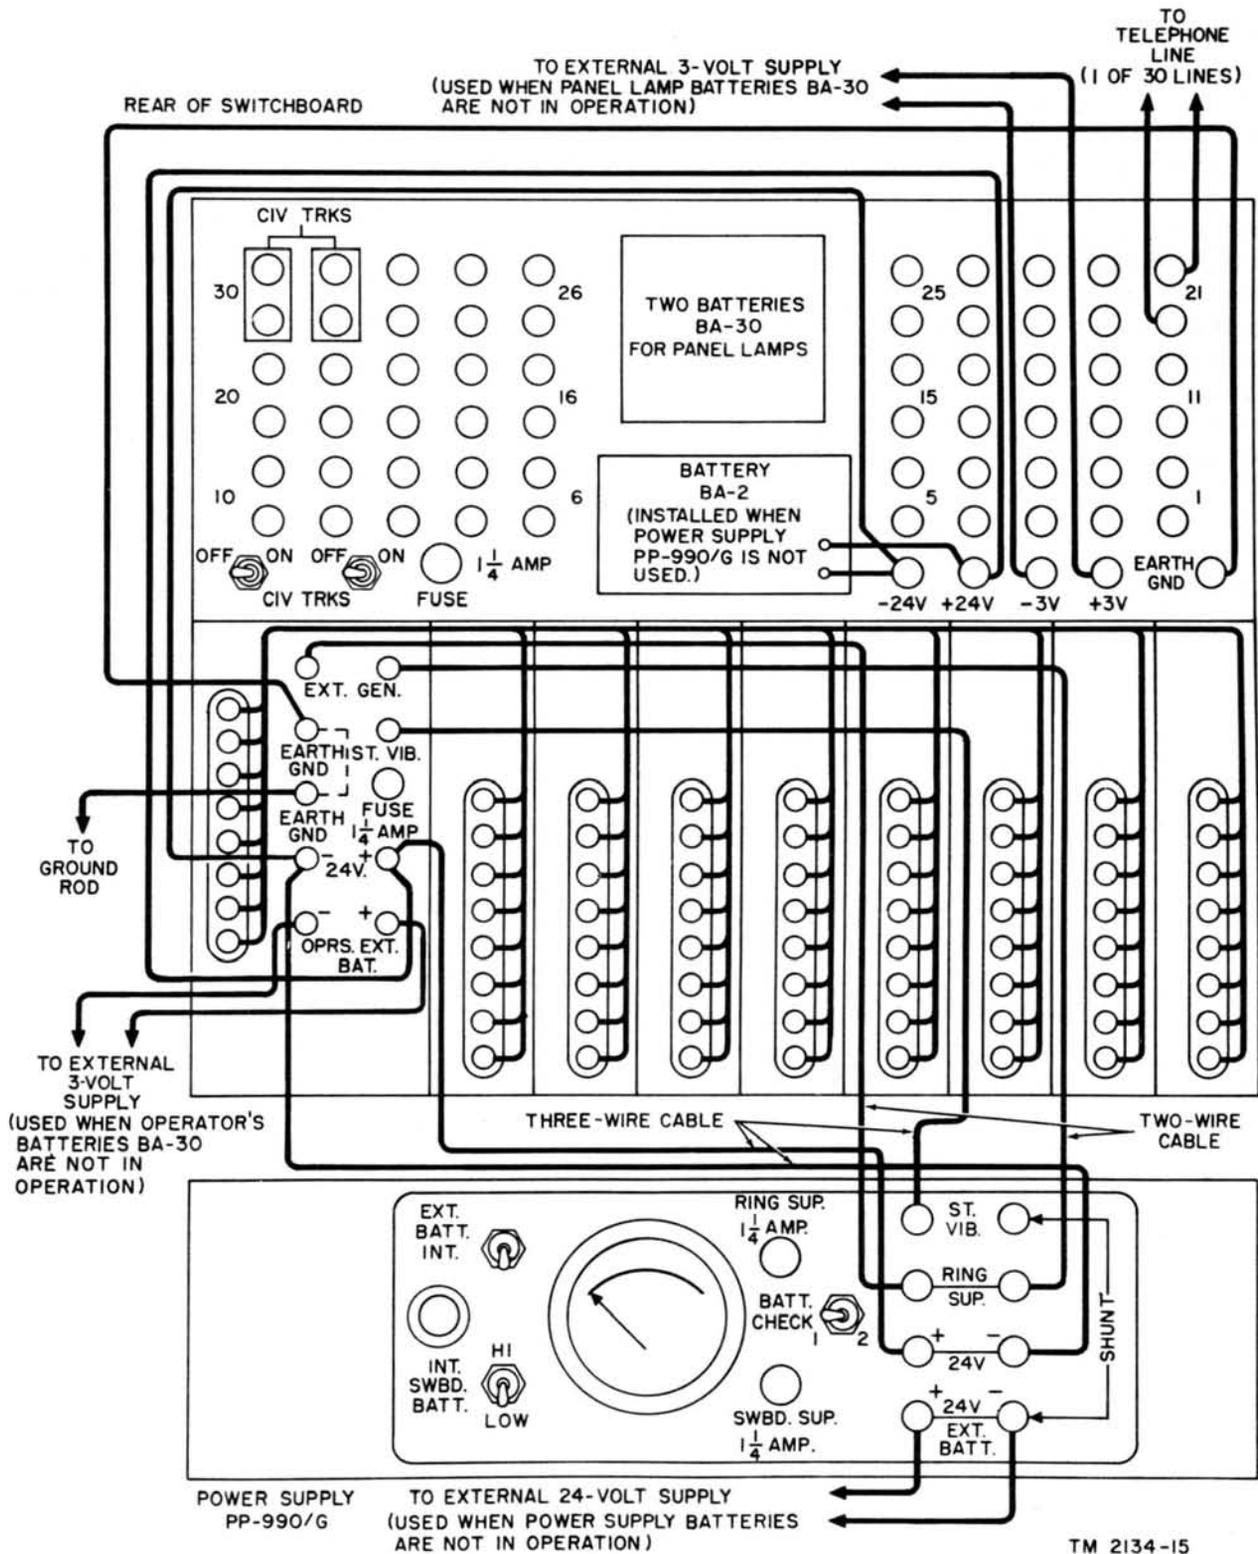

Figure 18. Manual Telephone Switchboard SB-86/P, cording diagram.
(fig. 18)
#### 29. Power Supply PP-990/G (fig. 18)
- (3) The line selector switch is operated to the T position when the line circuit is to be used for a common battery signaling trunk. When the line selector switch is in this position, the distant switchboard operator operates the line signal by inserting the calling cord of one of the cord circuits into the associated jack.
*b. Civilian Trunk Switch* (fig. 18). The civilian trunk switches (CIV. TRKS. OFF-ON) which are located on the rear of the jack field section, are provided on lines 29 and 30. When either of these lines is connected to a civilian trunk circuit, which is to be operated as a common battery trunk, the associated trunk switch is operated to the ON position. When the line circuit is to be operated under these conditions, the associated *line selector switch* must be operated to the M position.